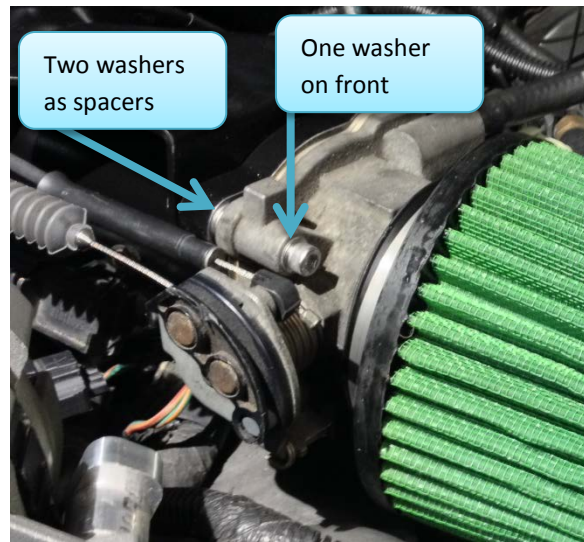

Figure 52: Throttle body installed
- 44.1. Install bracket as shown in Figure 52